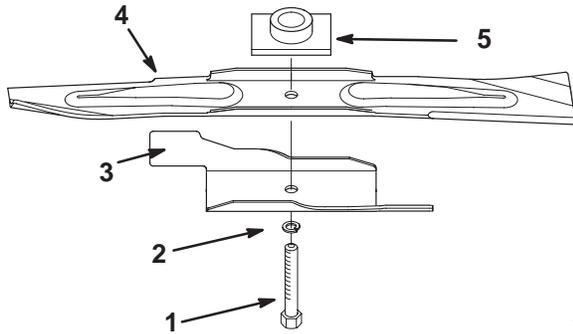

Figure 23
Grasp the end of the blade using a rag or thickly padded glove. Remove the blade bolt, the lock washer, the accelerator, and the blade (Fig. 23).
1. Install the blade onto the spindle and the blade driver with the curved blade tips pointing toward the lawn mower deck and the blade driver nesting in the recess of the blade (Fig. 23).
2. Install the accelerator, the lock washer, and the blade bolt (Fig. 23).